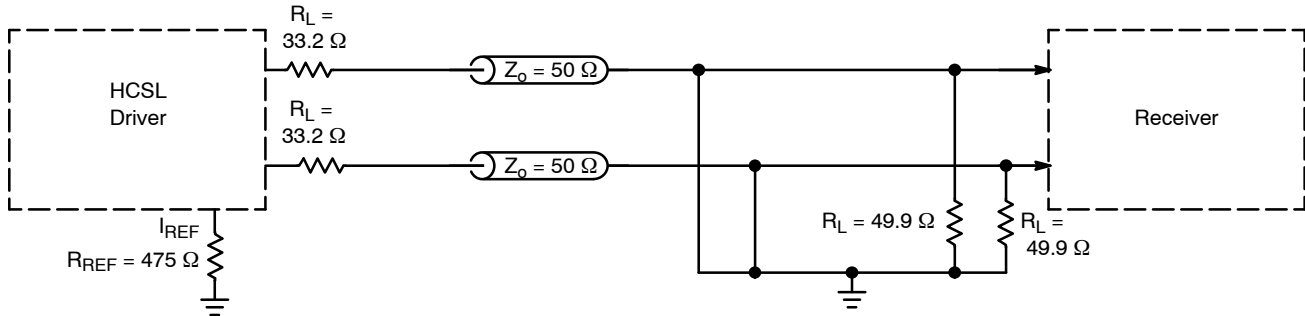

Figure 3. Typical Termination for Output Driver and Device Evaluation
5. Measurement taken with outputs terminated with R_S = 33.2 Ω, R_L = 49.9 Ω, with load capacitance of 2 pF and current biasing resistor, R_{REF} from I_{REF} (Pin 9) to GND of 475 Ω. See Figure 3.
7. Measurement taken from differential output on single-ended channel terminated with $R_S = 33.2\ \Omega$, $R_L = 49.9\ \Omega$, with load capacitance of 2 pF and current biasing resistor, R_{REF} from I_{REF} (Pin 9) to GND of 475 Ω . See Figures 3 and 4.